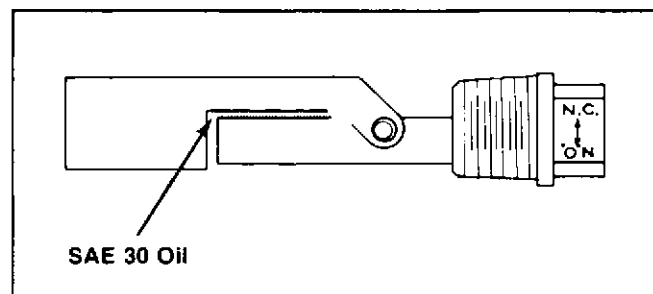

Figure 8-15. Float Switch Removal.
4. Apply a thick film of clean SAE 30 oil to the float and switch body as shown in Figure 8-15.